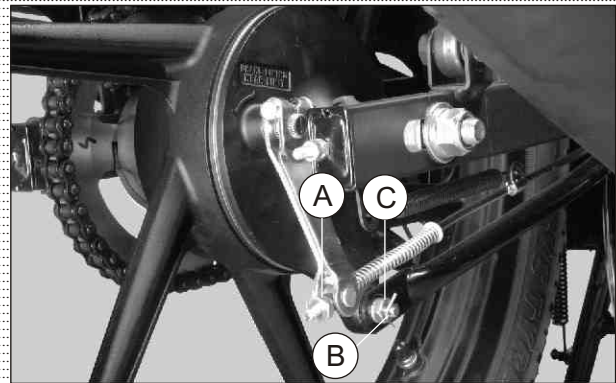

Fig. 2.83
- Remove nut rear brake rod adjuster (A). (Fig. 2.83)
- Remove split pin (B) from the torque link rear mounting. (Fig. 2.83)
- Remove hexagonal nut (M8) (C) along with the wave spring washer and take out bolt torque link rear. (Fig. 2.83)